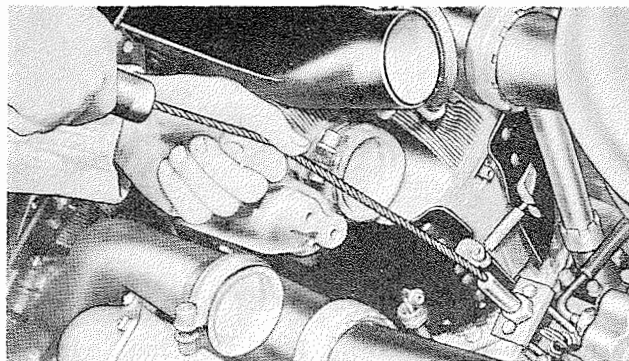

Figure 7-53. Pulling Valve Tappet and Guide
g. Install holding clip 804849 in the holes in the tappet and guide. The clip will hold the tappet and guide together and prevent the circllet from becoming dislodged with possible loss of the tappet roller, pin, and bushing in the engine. Remove the tappet and guide assembly using adapter 805564 and puller 806784. See figure 7-53.